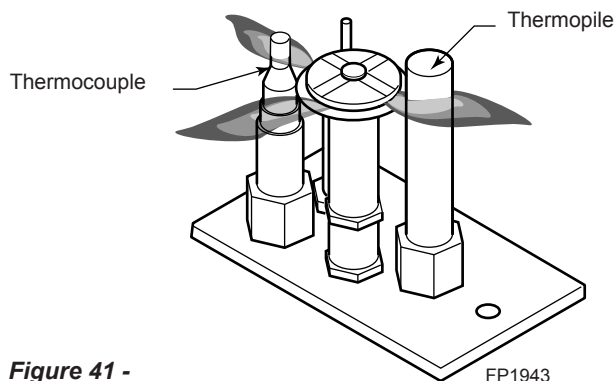

Figure 41 -
1. Check pilot flame. Flame should touch approximately 3/8" of the top of thermopile and touch top of thermocouple. *Figure 41*. If not, contact dealer for service.